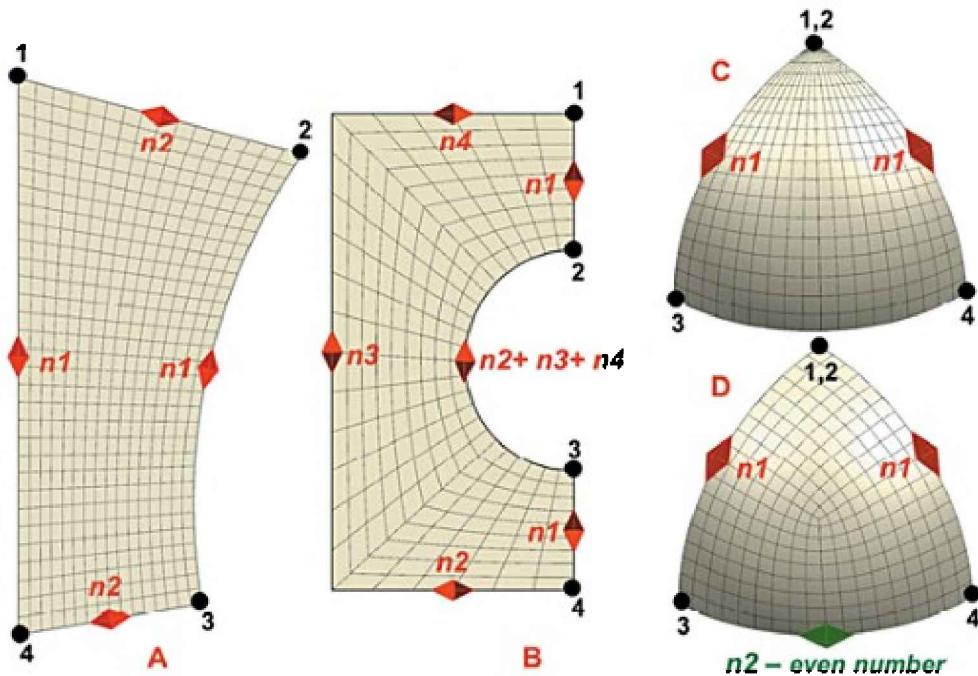

Figure 3.25. Examples of regular meshes:
When you create regular meshes, including on polyangular faces, NX Advanced Simulation automatically finds corners which define the opposite sides of a region. Figure 3.25 shows examples of regular meshes with numbered corners. The *Edge Density* parameter is determined in accordance with the specified element size. This parameter controls the number of elements on each edge following these rules:
- For a quadrangular face, the number on opposite edges must be identical, as shown in Figure 3.25, A. Note the matching partitioning pattern on edges n1, and the n2 pair of edges.
- For a polyangular face, the sum of partitions on edges between the 1–4 pair of corners (partitions n2, n3, and n4) must be equal to the sum of partitions of edges for the opposite 2–3 pair of corners (partitions n2 + n3 + n4). Moreover, as shown in Figure 3.25, B, the partitioning of n1 edges must be identical.
- For a triangular face, the edges sharing a vertex n1 (where mesh degeneracy is expected) must be divided identically (Figure 3.25, C). Avoid creating a fully regular mesh on triangular faces because one of the vertices will have degenerate elements with angles
tending to zero as the number of elements increases. When you use the command to create a regular mesh for a triangular face, you should select the *Quad Only on 3 Sided Faces* option to generate a structural mesh (Figure 3.25, D). In this case you also need to ensure the division on edge n2 is even.
- Select *Quad Only on 3 Sided Faces* to avoid element degeneracy in triangular regions (Figure 3.25, C). A structured mesh is created, which contains only quadrangular elements (Figure 3.25, D).